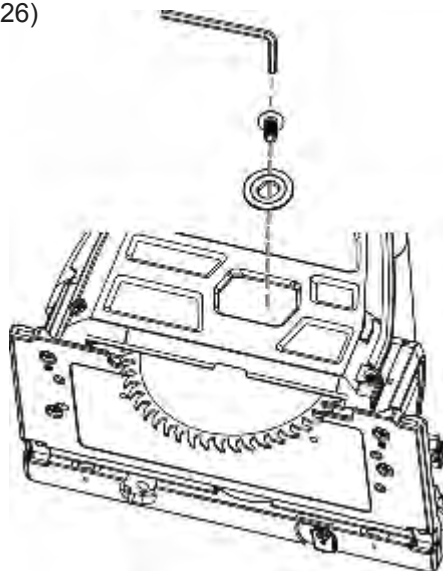
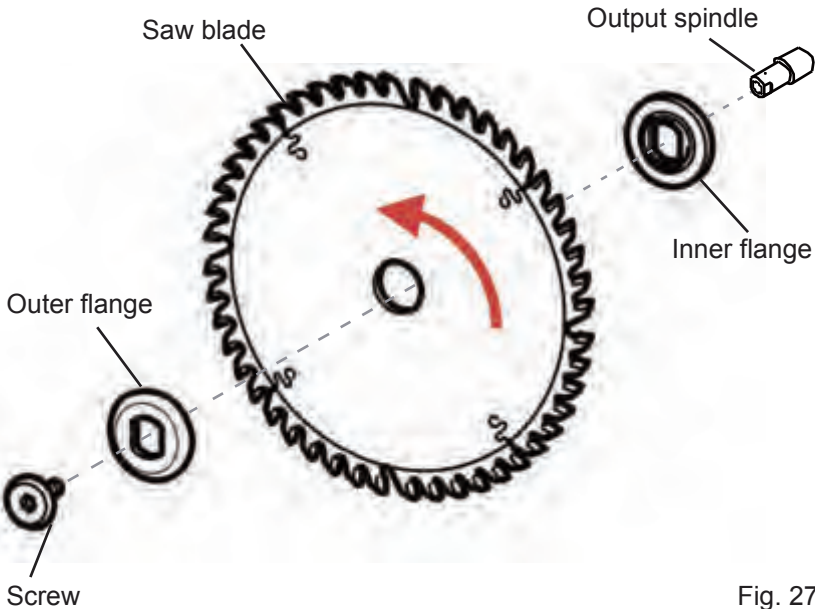

Fig. 26
Fig. 27
5. Use a 5 mm hex key (provided with this tool) to turn the screw at the saw blade slightly clockwise or counter-clockwise until the spindle clicks into place. (Refer to Fig. 26)
6. Use the Allen key to loosen the screw counter-clockwise. Remove the outer flange and the saw blade. (Refer to Fig .26 & Fig. 27)